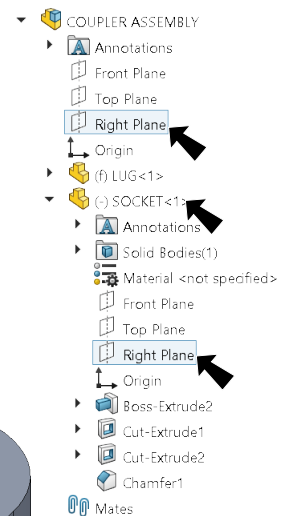

Fig. 6
Step 2. Expand the flyout Feature Manager design tree, expand **Socket** and click **Right Plane** , **Fig. 6**.